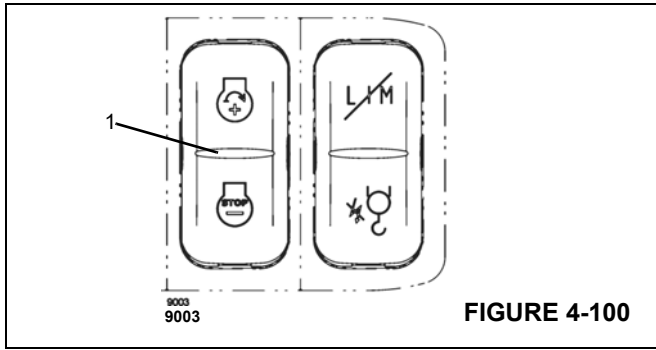

FIGURE 4-100
You can set the desired engine speed (idling speed) with button (1), (Figure 4-100). Refer to *Engine Idle Increment/Decrement Switch*, page 3-7.